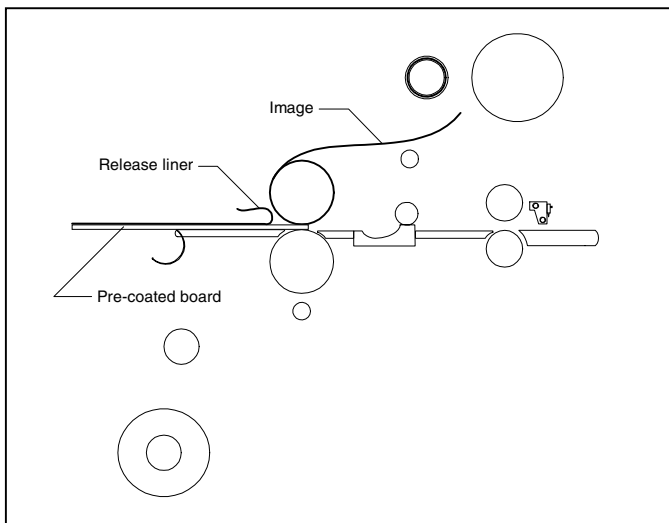

Fig. 37
TIPS FOR MOUNTING PRE-COATED BOARDS (Figure 37)
1. Load the laminator as illustrated in Figure 37.